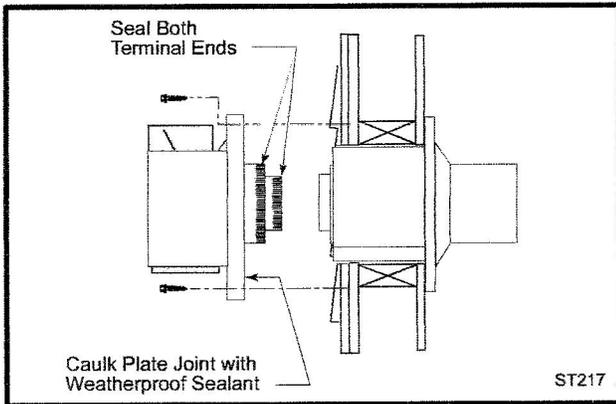

Fig. 34 Install the vent terminal.
10. For both CFM and DuraVent Systems: Install the vent terminal. (Fig. 34) Apply high temperature sealant one inch from the ends of the inner and outer collars. Guide the inner and outer vent termination collars into the adjacent pipes. Double check that the vent pipes overlap the collars by 2". Fasten the termination to the wall with the screws provided, and caulk the joint with weatherproof sealant.